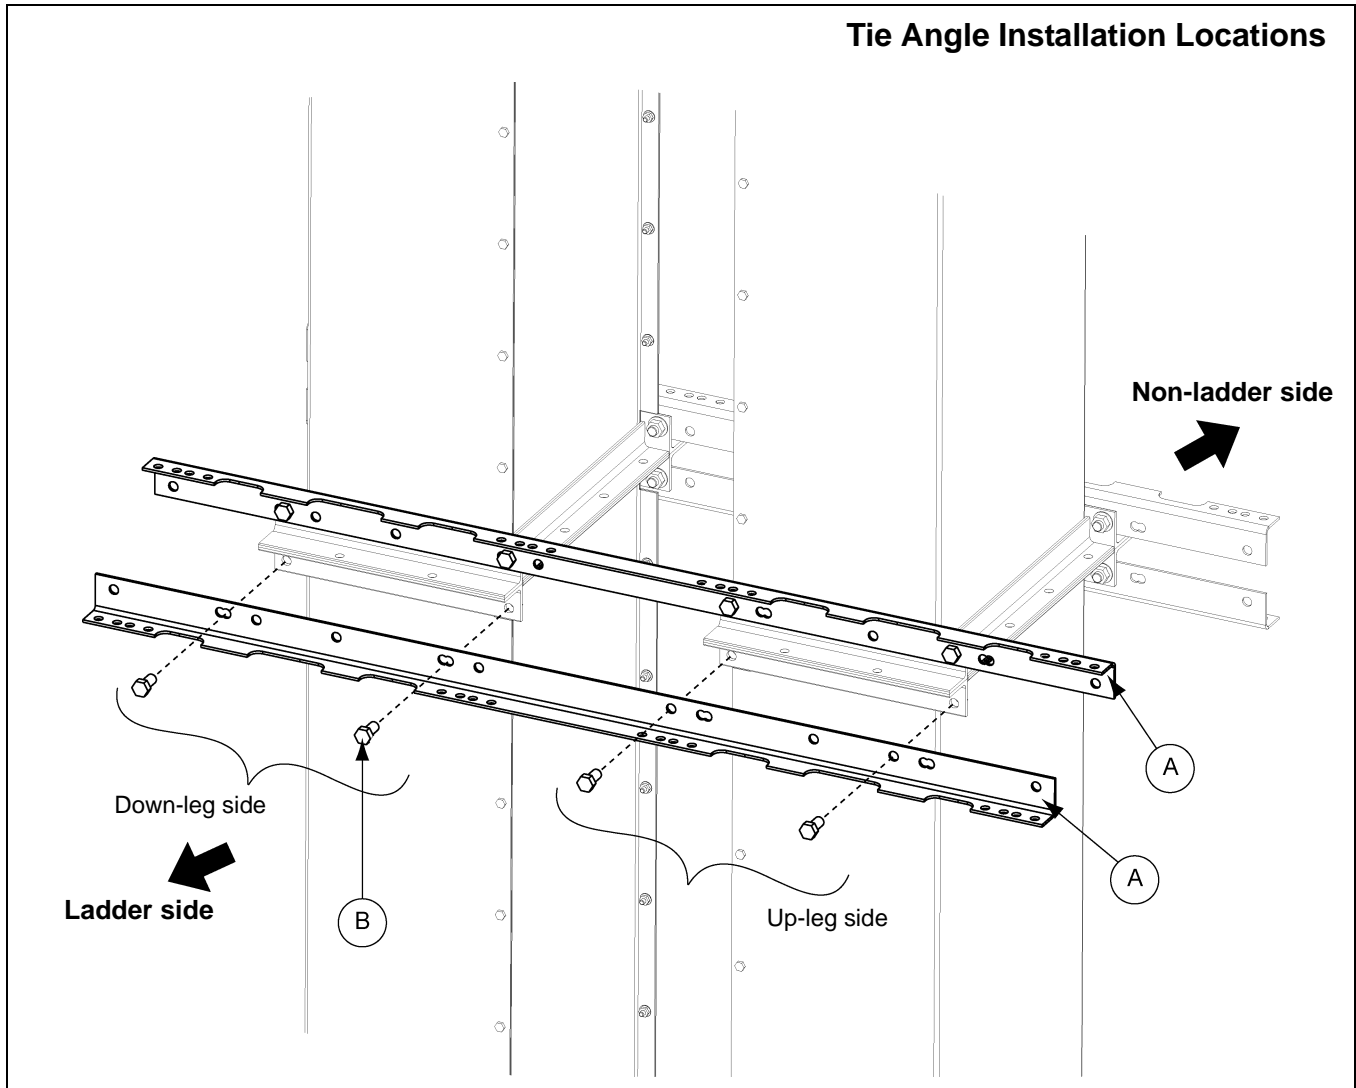

Figure 6I Tie Angle Installation Locations
1. On the LADDER SIDE, use 1/2" x 1" bolts. *See Figures 6I-6K on Pages 27-29* for the correct location of bolts for each elevator size.
Tie angle must be installed at every trunking seam. **NOTE:** *The bottom tie angle will be replaced with a rest platform tie angle (GECT1640FCRPX2) where a rest platform is to be installed. (See Figure 6I.)*